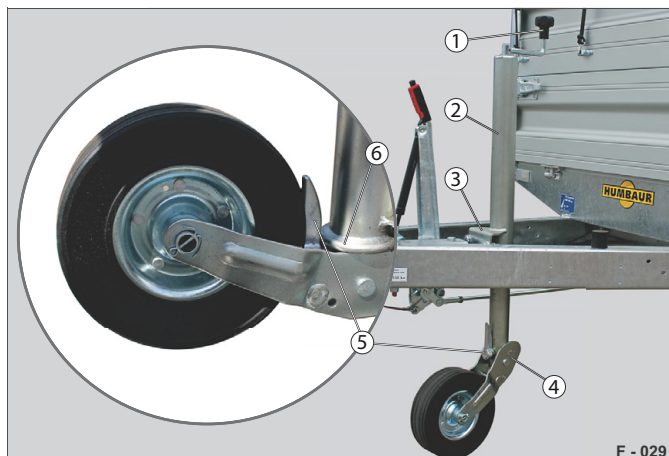
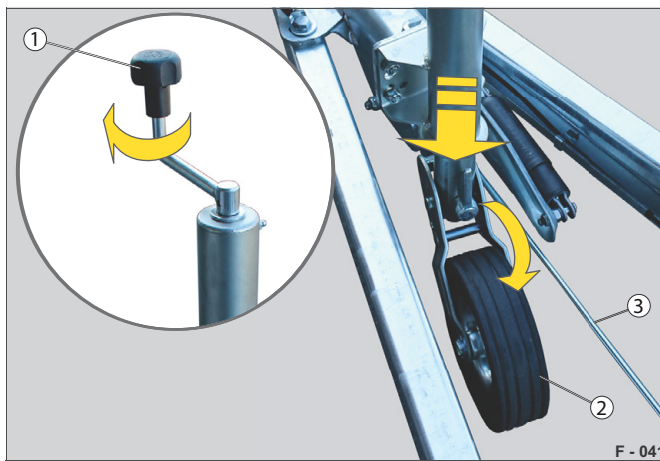

Fig. 13 Support position
Fig. 15 Crank down jockey wheel
When cranking up the automatic jockey wheel, the locking slide (Fig. 13 /5) moves up onto the bottom end stop (Fig. 13 /6).
- Crank the automatic jockey wheel (Fig. 15 /2) sideways past the brake linkage (Fig. 15 /3) down to the ground. The jockey wheel is completely folded out and locked in place (see Fig. 13).